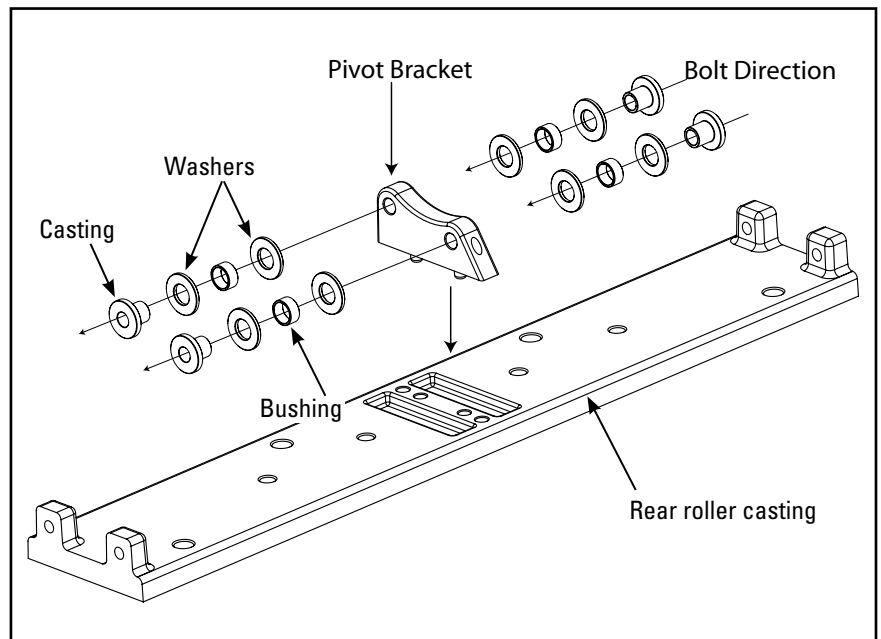

Figure 6 - Exploded pivot assembly
6. Slide a washer up between the Pivot Bracket and the center section of the rear base. Slide the bolt through until the washer is held in place. (See Figure 6.) Repeat for the other side while pushing the bolt all the way through.